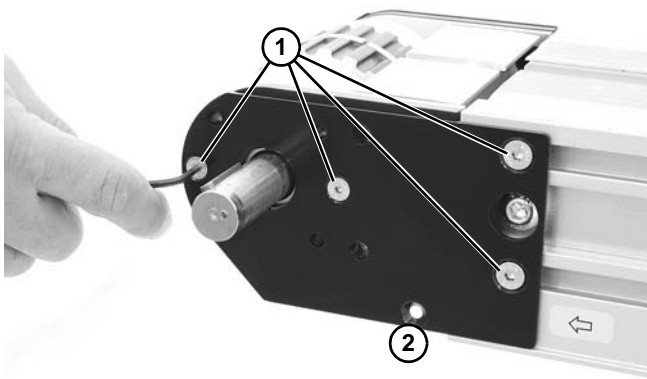

Figure 42
2. Remove four flat head screws (**Figure 42, item 1**).